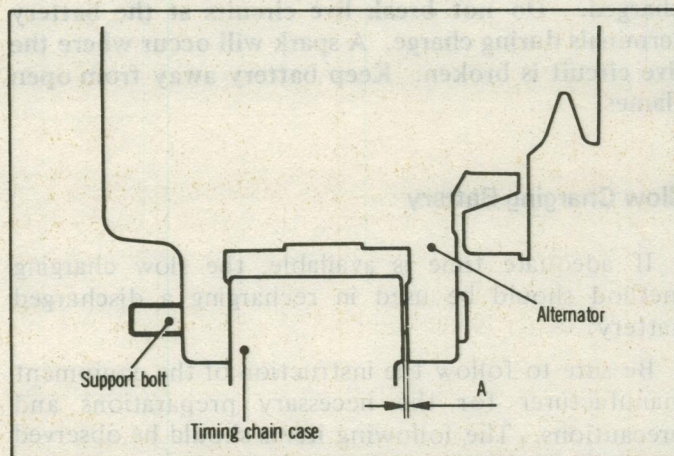

Fig. 65 Installing Alternator
- (1) Align the hole in alternator leg with hole in the front case and insert the alternator support bolt from the front bracket side.
- (2) Install the brace bolt.
- (3) Install the belt.
- (4) Push the alternator toward the front of the engine and check clearance (A) between the alternator leg and the front case. If the clearance is more than 0.2 mm (.008 in.), insert spacers [0.198 mm (.0078 in.) thick] as required. (Fig. 65)